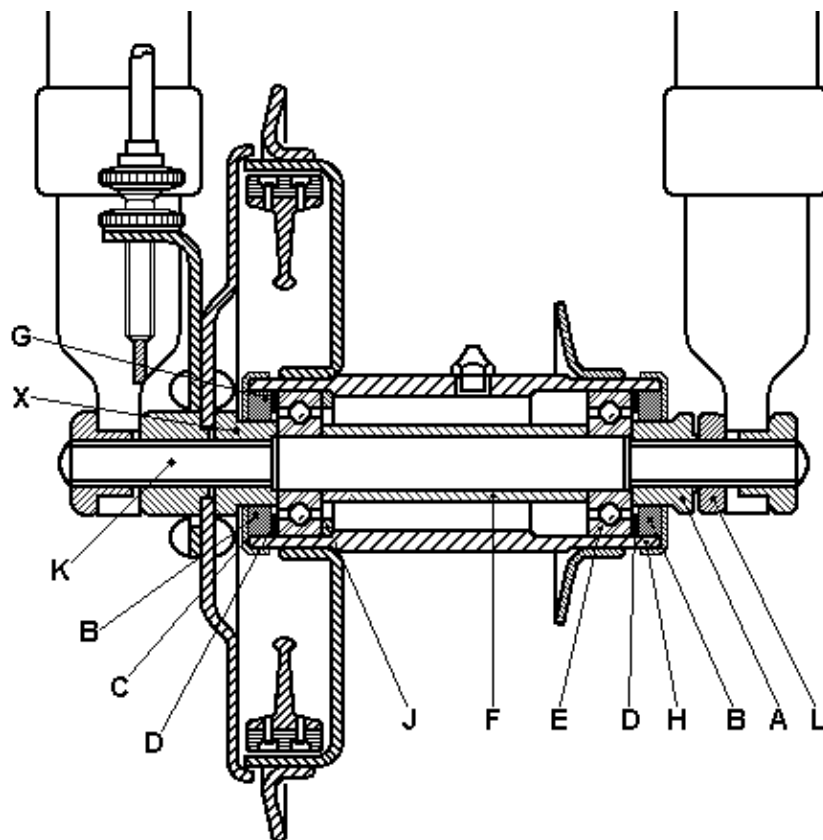

Fig. D23.
If it is necessary to remove the bearings for examination or cleaning, unscrew the locknut (L) and spindle nut (A) Fig. D23, and tap the spindle right through, using a hide mallet and soft drift to prevent damage to the threads.
If it is necessary to renew the journals the hub should be supported at the brake drum end. With the aid of a suitable soft drift applied to the inner ring of the ball journal, (E) Fig. D23, drive the journal in towards the centre of the hub. This will cause the brake drum side journal to be driven out. When it is clear of the hub, take out the distance piece (F) and pass a drift through the hub until contact is made with the other journal, in order to drive it out.
The rear wheel hub is identical with that in the front except that a speedometer drive gearbox is fitted to the offside. This is held in position by a plain washer and an additional locknut; after removing the locknut the gearbox can be drawn straight off the hub barrel. The instructions given for removal of the front hub bearings will apply equally to the rear hub, except that on spring frame models the inner locknut (corresponding to "L" on Fig. D23) is replaced with a plain distance collar.
The following applies to all hubs, except the front hub on competition models, and refer to the illustration Fig. D23, unless otherwise stated. If new ball journals are to be fitted first place the distance piece (J) in position in the hub barrel, brake drum side, and press in the hub journal, taking care to see that it is square to the housing. Insert one plain steel washer (D) and then screw in the lock ring (G). This has a left-hand thread. Reverse the hub, insert the inner distance sleeve (F), and push the spindle (K) through the bearing and distance sleeve. At this stage, if the hub has been cleaned out, it should be re-packed with grease. Place the second journal in position and press it into the housing until the inner distance sleeve is firmly gripped, and remove the spindle. Replace the other plain washer (D), felt washers (C) and dust caps (B), and re-insert the spindle so that the "fixed" nut is on the brake drum side, except on the rear hubs of the later spring frame models; where it should be on the opposite side.
The "fixed" nut is marked (X) on both illustrations, Figs. D23 and D23b, and has been left undisturbed on the spindle throughout all the previously mentioned operations. If, for any reason, it has been slackened; it should be retightened firmly against the shoulder of the spindle. The "fixed" nut is located on the longer-threaded end of the spindles fitted to all front wheels and the later type spring frame rear wheel. On the rear wheels fitted to pre-1953 spring frame models and all rigid frame rear wheels the "fixed" nut is located on the shorter-threaded end of the spindle.